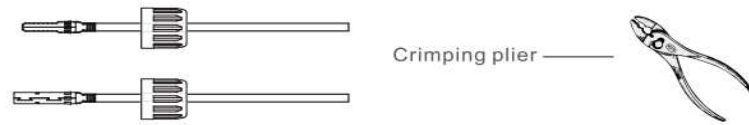

Figure 2.9 Crimping clamp crimping metal terminal
2. Crimp the metal terminal with crimping pliers, as shown in figure 2.9.